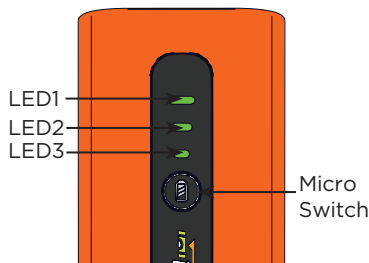

Figure 7
- Check the fuel gauge status of the Li-ion battery. Press the micro switch on the battery. Note which LEDs light up. See the table below to determine the power status of the battery. The LEDs will turn off after three seconds. (Figure 7)